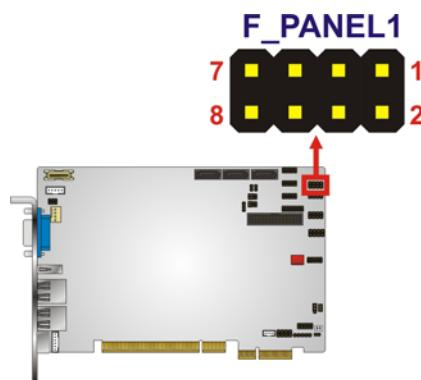

Figure 3-9: Front Panel Connector Pinout Locations (8-pin)
**CN Location:** See Figure 3-9